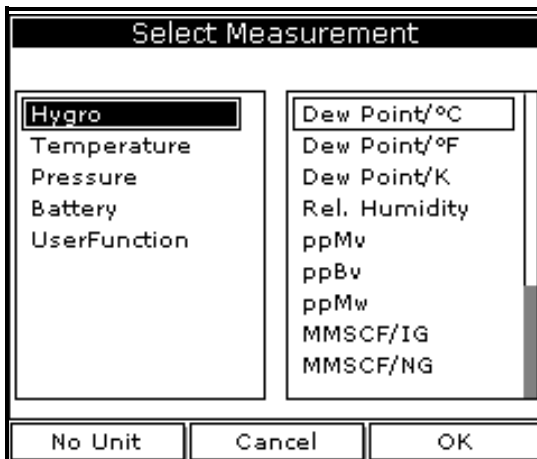

Figure 15: Select Measurement Window
2. Use the arrow keys to scroll to **Measurement** and press [ENTER]. The screen appears similar to Figure 15. The left column displays the five measurement types and the right column displays the measurement units.
5. Press [F3] (OK).